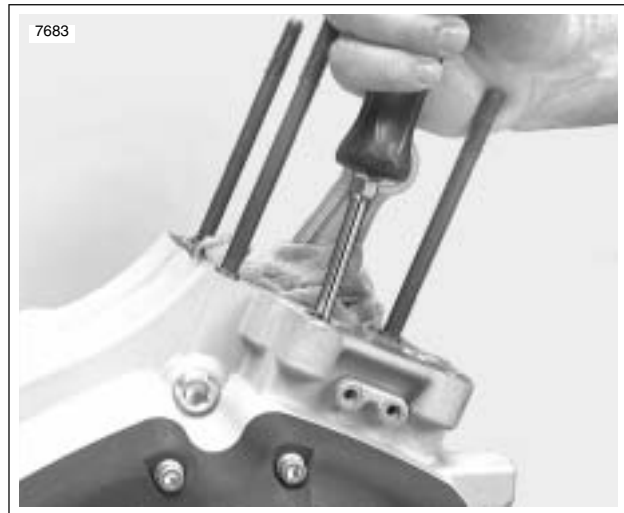

Figure 3-108. Checking Cam Gear End Play
6. See Figure 3-108. Check cam gear end play for each cam gear as follows: